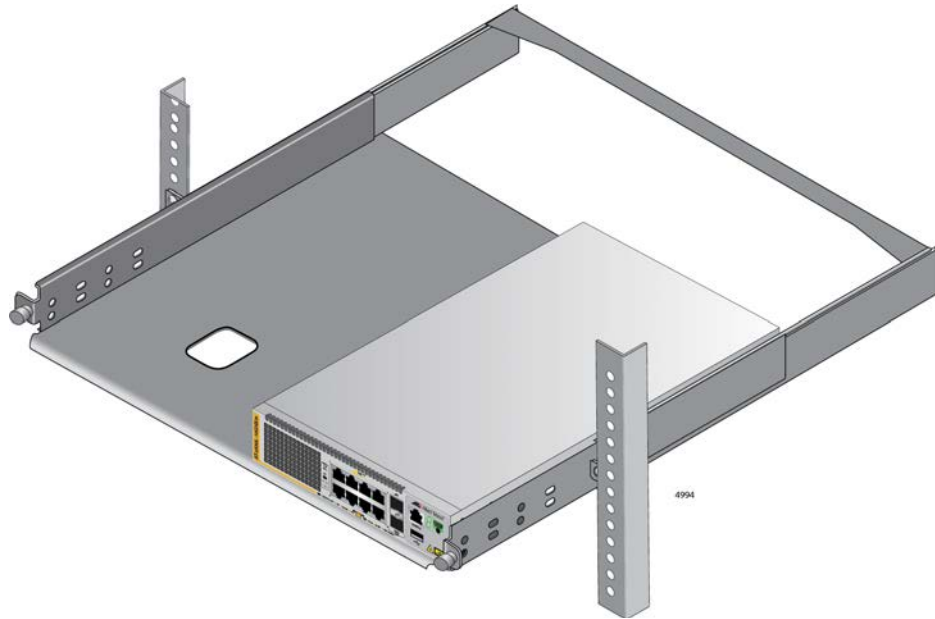

Figure 42. Placing the x530L-10GHXm Switch in the RKMT-J15 Bracket
7. Place the switch on one side of the bracket. Align the front panel with the front edge of the bracket. If you are installing only one switch, you may install it on either the left or right side. Refer to Figure 42.